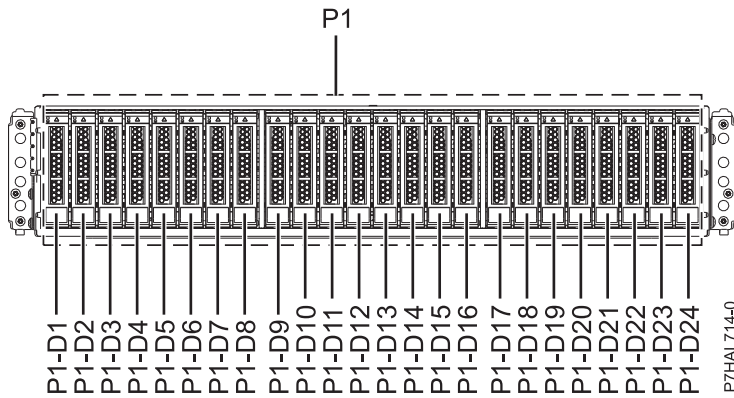
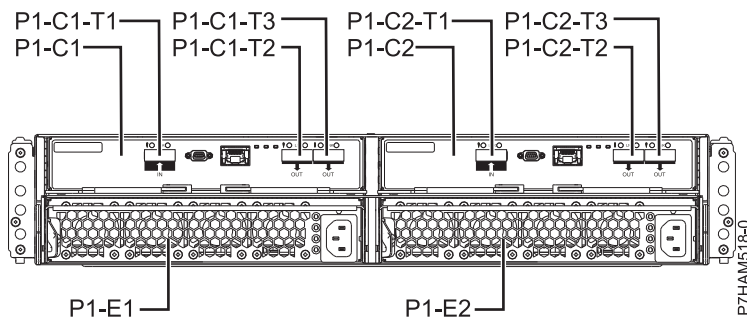

Figure 1. Front view of the 5887 disk drive enclosure showing the disk drive locations
Figure 2. Rear view of the 5887 disk drive enclosure
1. Identify the part and the enclosure that you want to service. The disk drive and SSD slots are located in the front of the enclosure. Figure 1 and Figure 2 show the front view and rear view of the enclosure and the disk drive locations in the enclosure.